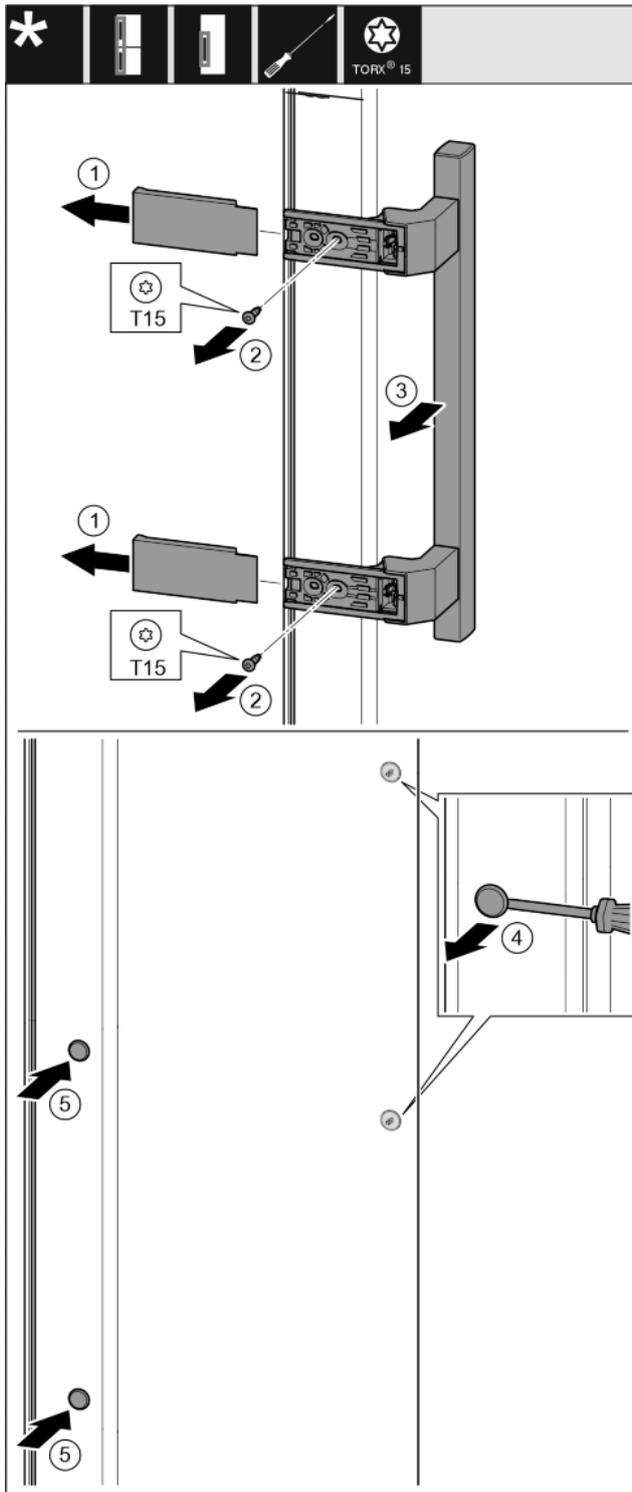

Fig. 30
- ▶ Pull off the cover. Fig. 30 (1)
- ▶ Remove the screws with a T15 screwdriver. Fig. 30 (2)
- ▶ Take off the handle. Fig. 30 (3)
- ▶ Carefully lift up the side plugs with a slotted screwdriver and pull them out. Fig. 30 (4)
- ▶ Insert the plugs again on the other side. Fig. 30 (5)